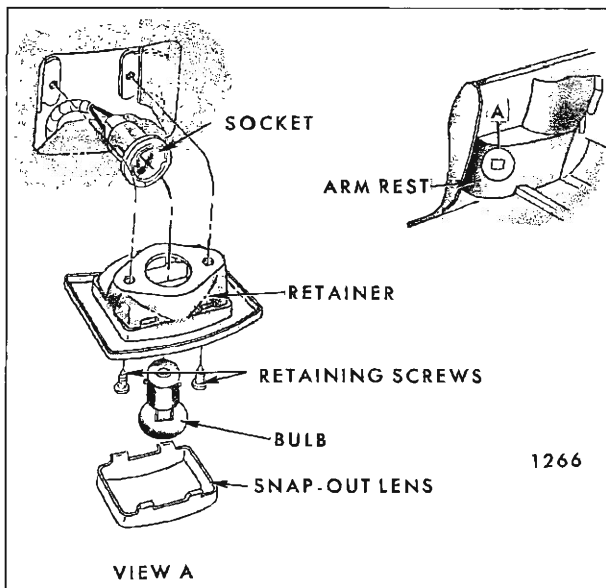

Fig. 14-24—Rear Quarter Arm Rest Courtesy Lamp Assembly
f. On styles equipped with rear quarter lamp assemblies, disconnect lamp as shown in Figure 14-24.